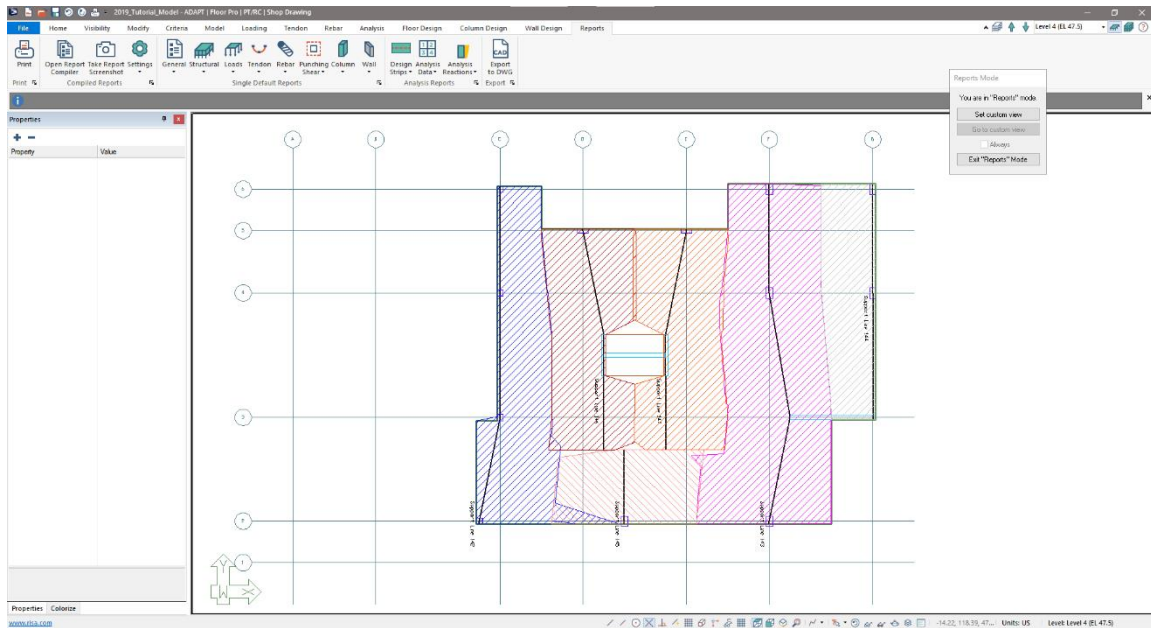

Figure 10-11
- Go to *Reports → Analysis Reports → Design Strips → Design Strips Y-direction*. Click *OK* on the next window that opens. The user will see the strips in the Y-direction on plan as shown in **FIGURE 10-11**.